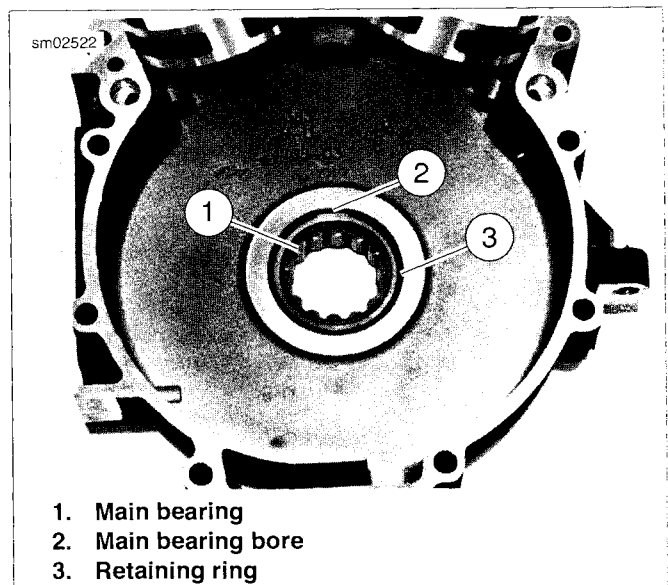

Figure 3-145. Left Main Bearing Assembly
5. See Figure 3-145. The left main bearing (1) is press-fit into the main bearing bore (2) in the left crankcase and secured with a retaining ring (3) on the inboard side. See Figure 3-146. Using the tip of a flat blade screwdriver, carefully lift the edge of the retaining ring up out of its groove in the crankcase. Slide the screwdriver tip around the edge of the bearing, lifting the retaining ring up and out of the groove. Be careful not to damage the lip of the groove in the crankcase.